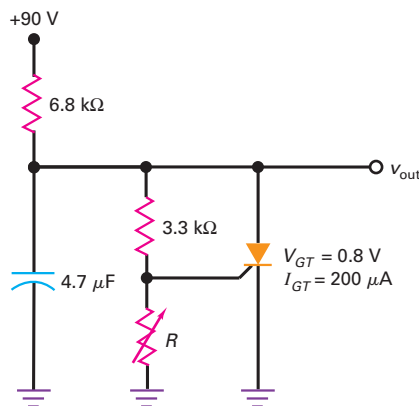

Figure 40-24
40.2 What is the peak output voltage in Fig. 40-24 if R is adjusted to $500\ \Omega$?
- 40.4** In Fig. 40-24, R is adjusted to $750\ \Omega$. What is the charging time constant for the capacitor? What is the Thevenin resistance facing the gate?